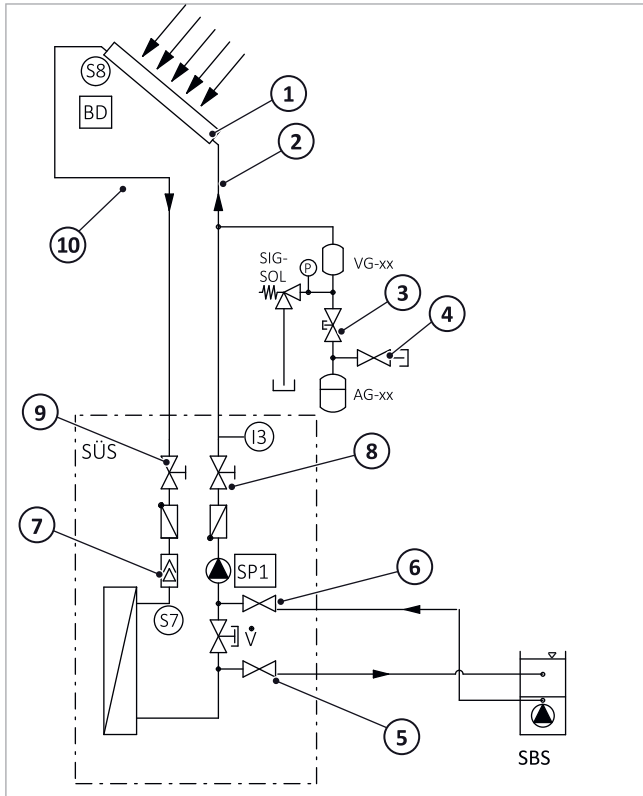

Fig. 129: Solar heat transfer station: Flushing the pump line
- Once the solar circuit has been refilled, gas will be emitted during operation, which collects in the station deaerator → Fig. 129, Page 60 (7). The gas emissions decrease as the operation time increases. It is therefore important to bleed the deaerator and check the system pressure every day in the first few days after start-up and then at regular intervals, depending on the amount of air discharged.